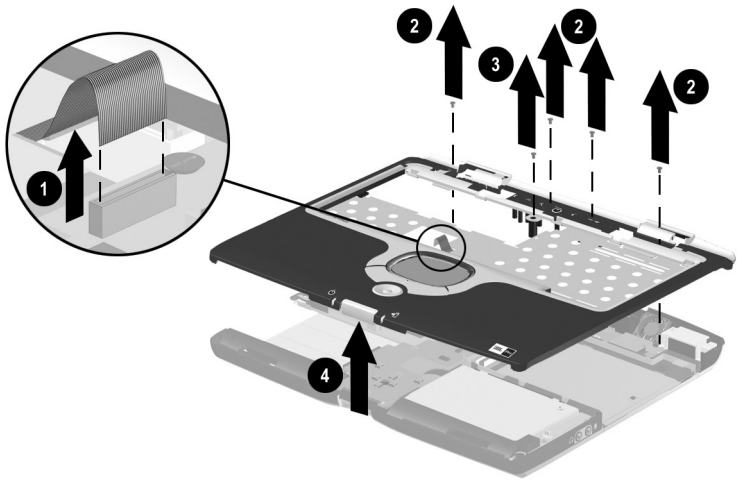

Figure 5-24. Removing the Top Cover
5. Disconnect the TouchPad cable ❶ from the LIF connector on the system board (Figure 5-24).
6. Remove the four black PM1.5 × 5.0 screws ❷ and the PM2.0 × 5.5 screw ❸ that secure the top cover to the base enclosure.
7. Lift the top cover straight up ❹ and remove it from the base enclosure.